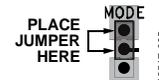

Figure 5. Enabled Jumper Position
- Use a jumper to connect the top two pins of the MODE bus. This jumper connects MODE to VREG and places the ADP1974 in buck/charge mode (see Figure 5).